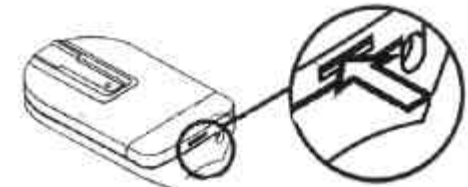

Fig. 2
**Step 5-1** Turn Transmitter upside down (Fig. 2).